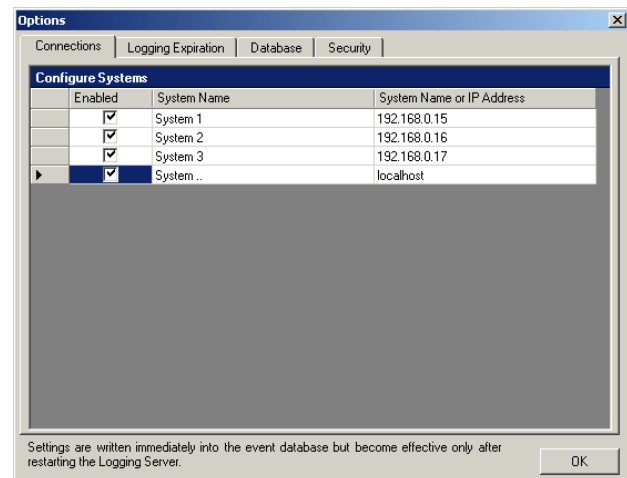

figure 49.6: Add a system (1)
- 1 Click in the *Enabled* field of the row that is marked with an asterisk (*). A new row is added to the list of systems (see figure 49.6).